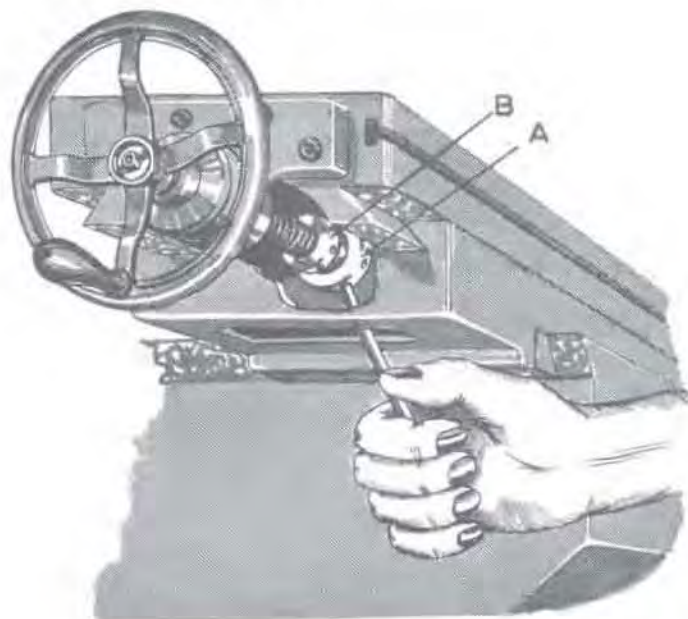

FIG. 8—Table
**TABLE** (See Fig. 8): The Table Screw is adjusted by means of an adjustable nut at the left hand end of the Saddle. To adjust, loosen check nut "A" and adjust nut "B" in either direction to remove backlash. After completing adjustment tighten check nut "A".